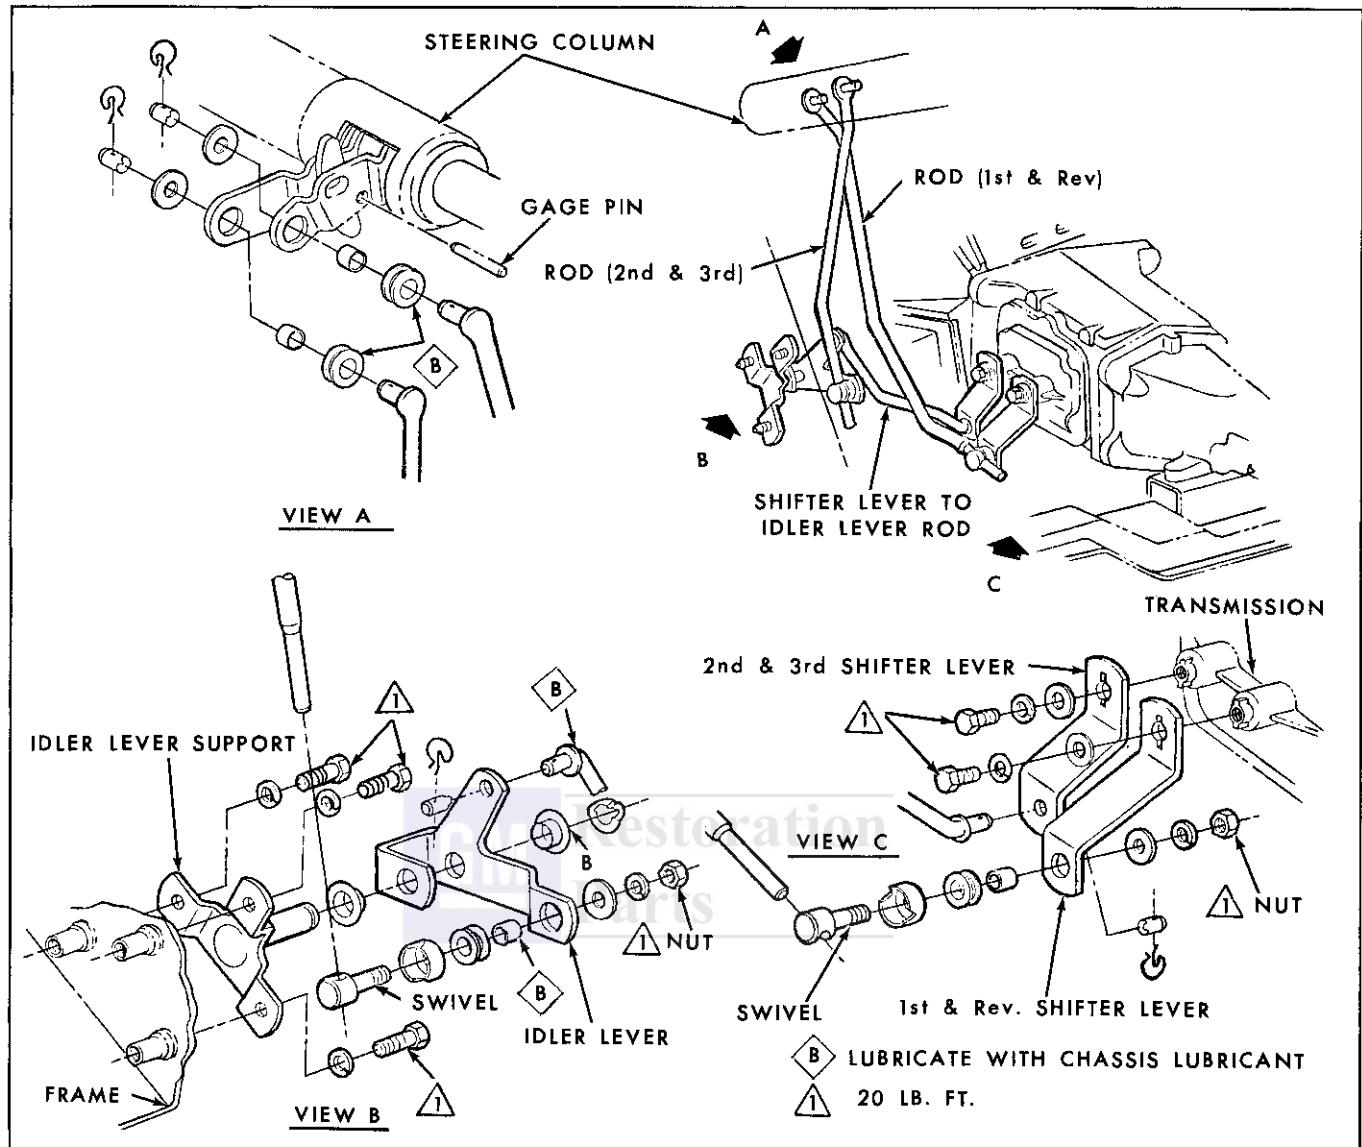

Fig. 7B-2 Firebird Column Shift Controls
3. Attach slide hammer J-2619. Using hammer, pull bushing and seal from extension housing (Fig. 7B-6).
5. Using tool J 6403-01 and soft hammer, tap bushing into place (Fig. 7B-7).
6. Install new seal, using tool J 6403-01 and collar J 6403-02 (Fig. 7B-5).